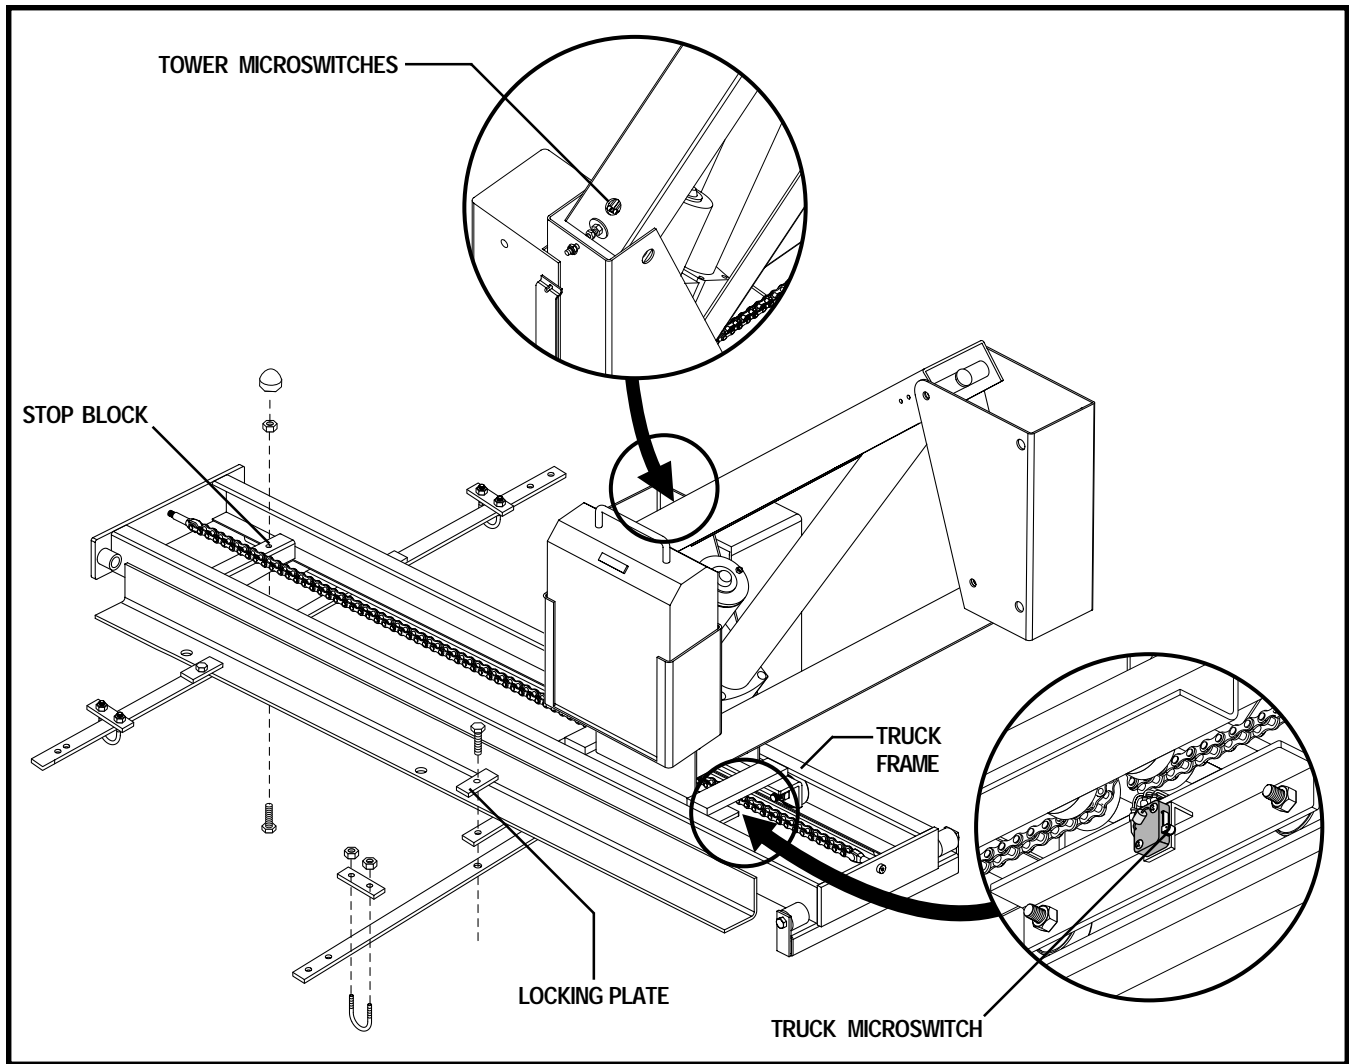

Figure 2. Backpacker Installation
7. Install the bolt you removed from the shipping cleat into the stop block on the Backpacker and secure with the supplied nut. See figure 2.
11. Reach under the Backpacker truck frame and simultaneously press the microswitch and the “UP” button on the hand control to raise the tower 4-6 in. See figure 2.
12. Carefully slide the Backpacker into the rear of the van and center it over the threaded holes in the floor plates. See figure 2. Make sure the mid-riser bar is still properly aligned.
13. Place a locking plate over each of the threaded holes in the floor plate and secure with the supplied bolts. Screw the bolts into the threaded holes, but do not fully tighten the hardware at this time. See figure 2.
14. Simultaneously press the two microswitches on the Backpacker tower arm and the “DOWN” button on the hand control until the tower reaches its full extension. See figure 2.